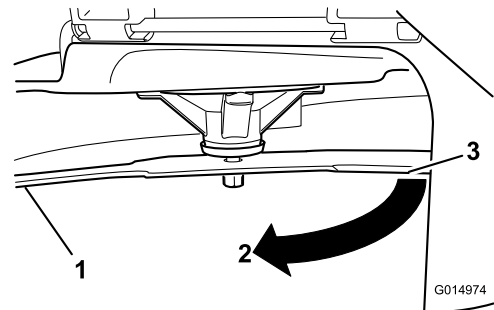

Figure 50
4. Rotate the same blade 180 degrees so that the opposing cutting edge is now in the same position (Figure 50).